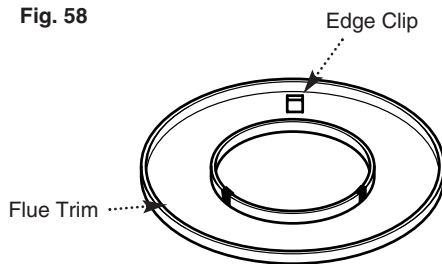

Fig. 59
b) Take the three edge clips from the kit and fit them equi-spaced onto the inner flange of the trim (Fig. 59).